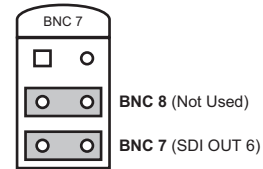

Figure 3.3 JP3 — Extra SD-SDI Out Setting
- **Extra SDI Out** — Select this position to use BNC 7 as SDI Out 6 and when BNC 8 is not connected. This position is advised when using the R2S-8732 Split Rear Module. Refer to **Figure 3.3** for jumper positions.